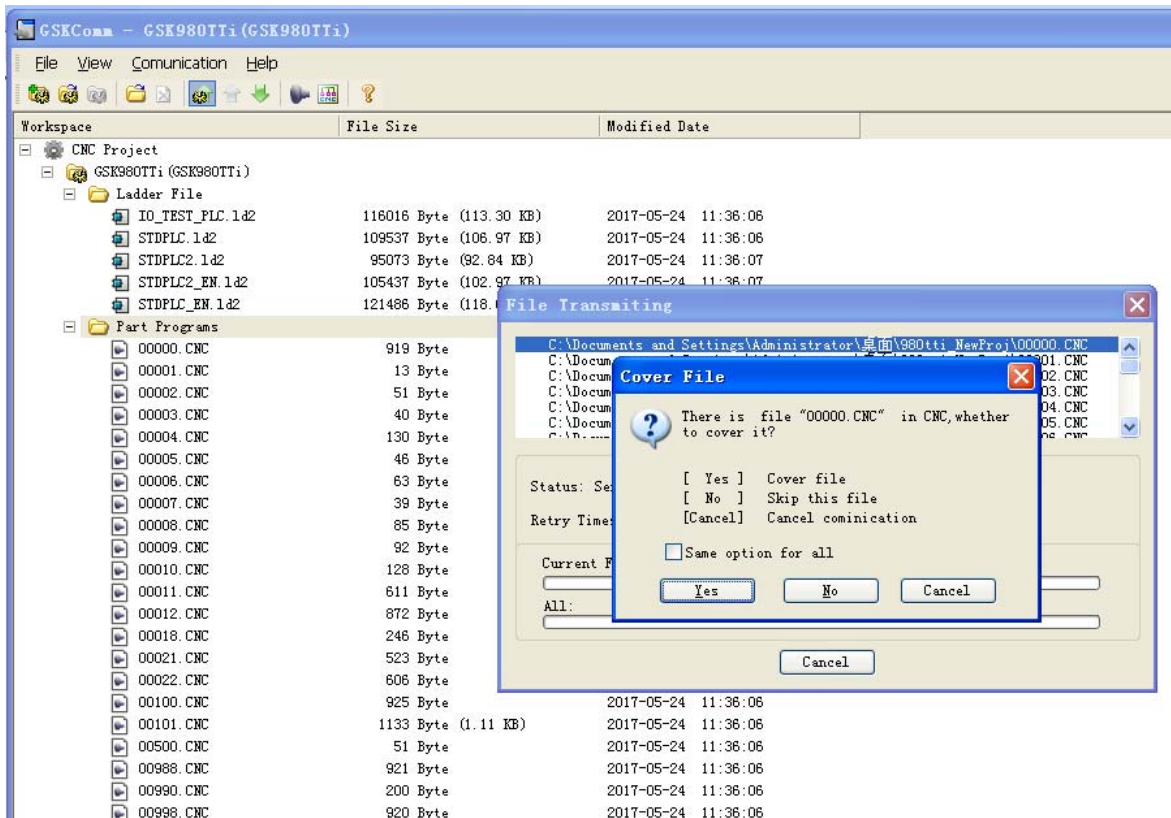

Fig.3
③When a file name in the CNC is the same that of the transmitting, a dialog box is popped up to select the covering, skipping the file or cancelling transmission as follows Fig.3;
④When the part program name is the same that of the transmitted file, the covering cannot be